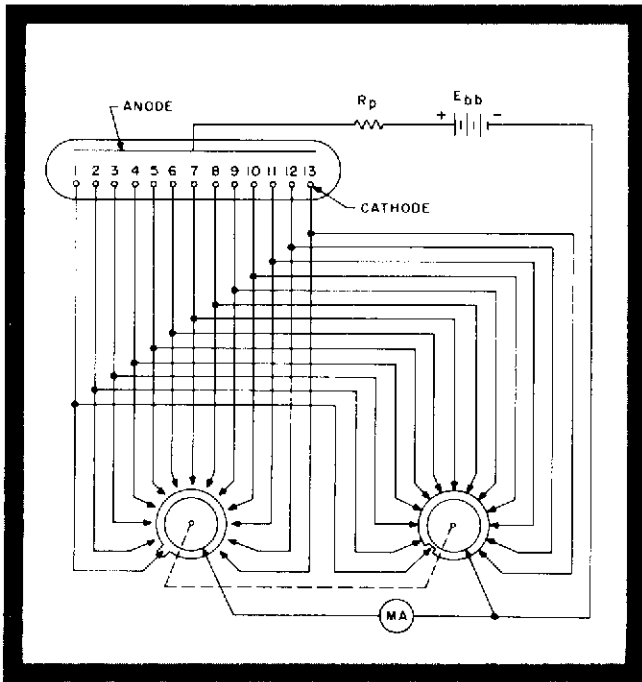

Figure 5. TEST CIRCUIT.
Test Conditions (See Figure 5 and Notes 1 and 2)
- These tests are conducted with all cathodes ionized as shown in Figure 5 except as noted. (See notes 4 & 5.)